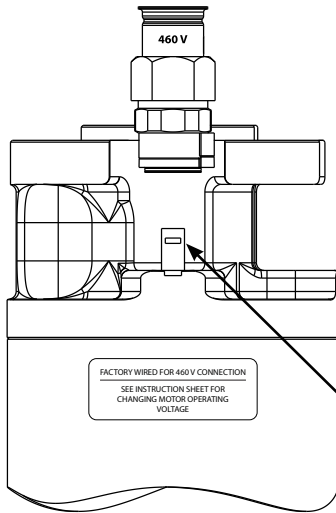

Fig. 2
2. Remove the seal assembly to expose the voltage change plug (see Fig. 2).
3. Remove the installed plug as shown in Fig. 2 and 3 (a pry slot is provided in the plug handle if needed).